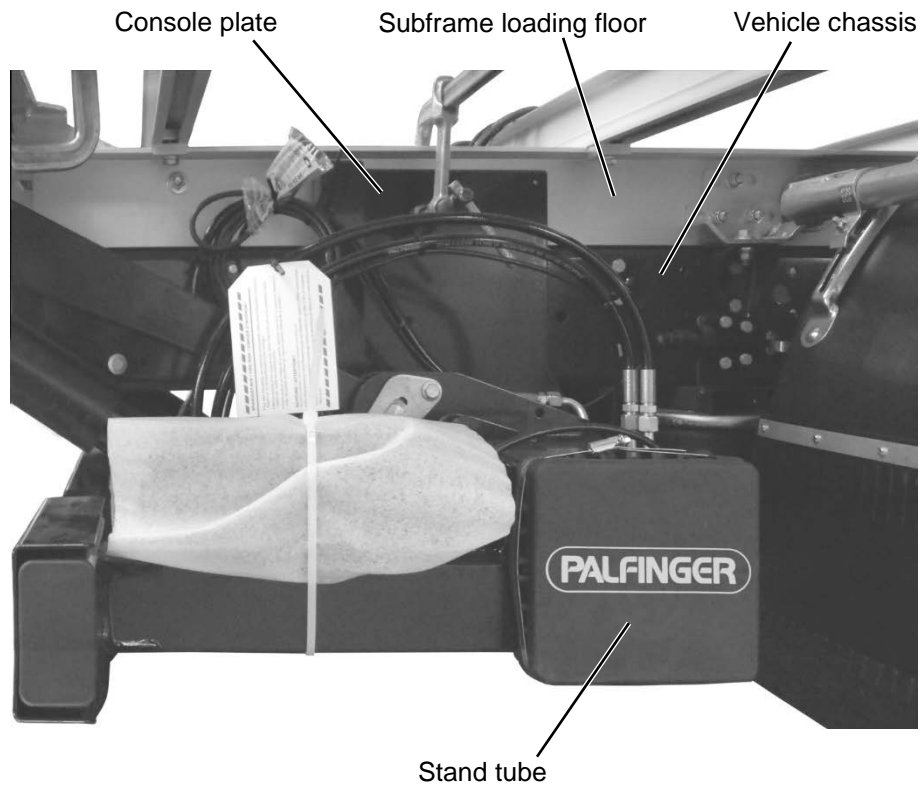

Figure 20: Positioning the stand tube
- Secure the stand tube / linkage mounts to the vehicle frame in this position with screw clamps (see Figure 20, page 40).